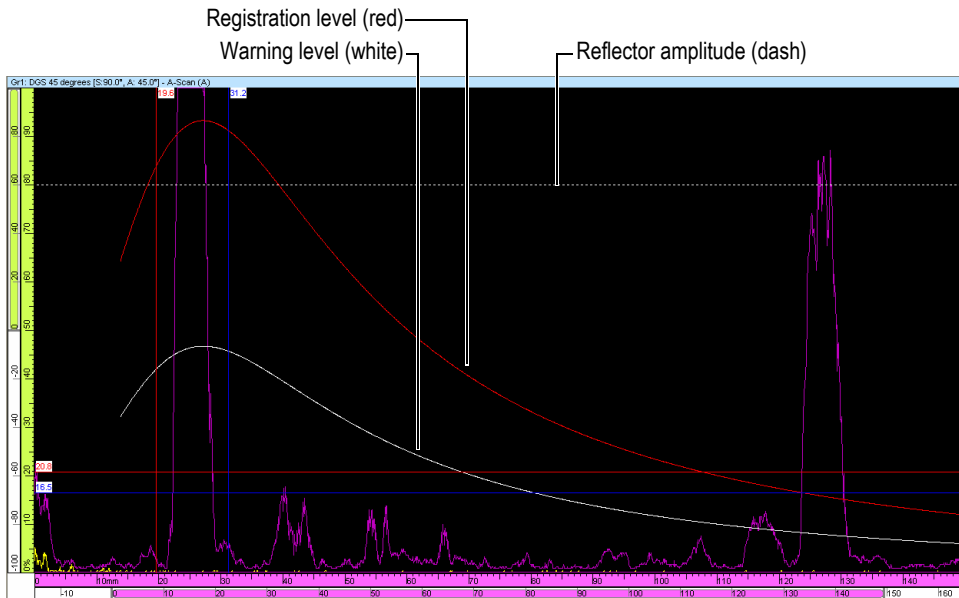

Figure 4-45 Example of the DGS registration and warning level curves
- c) Select the **Display DGS** check box to view the DGS curve on the A-scan (see Figure 4-45 on page 271).